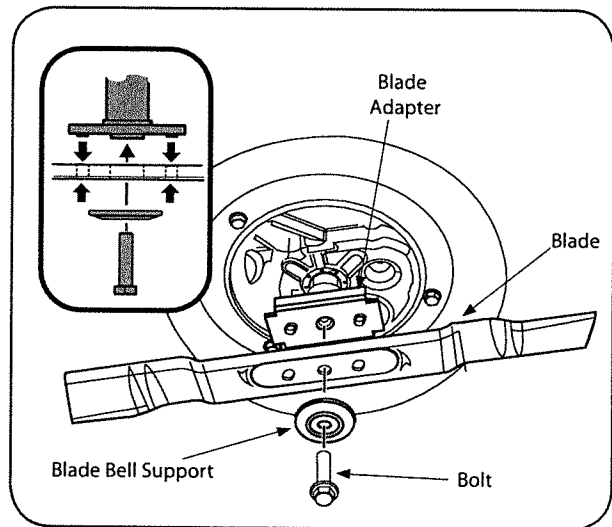

Figure 13
2. Remove the bolt and the blade bell support which hold the blade and the blade adapter to the engine crankshaft (Figure 13).
5. Lubricate the engine crankshaft and the inner surface of the blade adapter with light oil. Slide the blade adapter onto the engine crankshaft and place the belt on the blade adapter such that the side of the blade marked "Bottom" (or with part number) faces the ground when the mower is in the operating position. Make sure that the blade is aligned and seated on the blade adapter flanges. See Figure 13 inset.